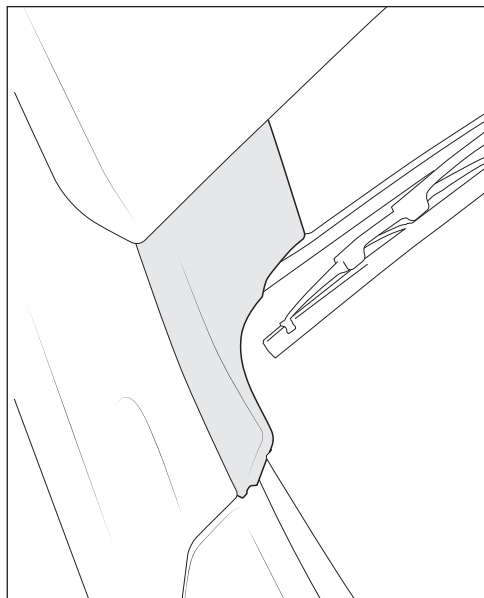

Figure 1
4. Using a suitable plastic trim tool, carefully release the air inlet grille panel extension clip (fig 1).